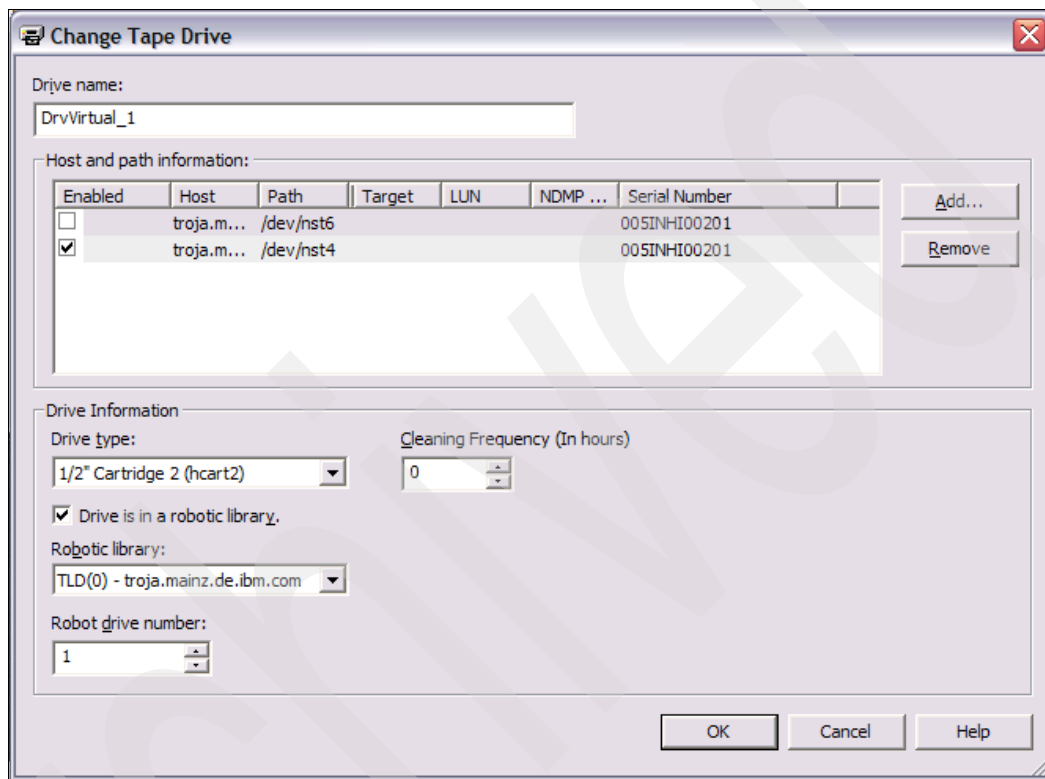

Figure 10-17 Change device file for drive 1
3. We change also the device path and the name for our second tape drive, as shown in Figure 10-17 on page 340.